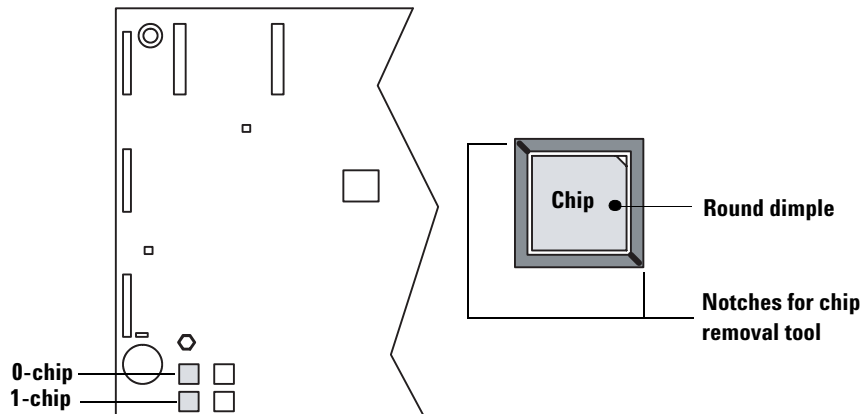

Figure 17 Chip sockets
- 1 Examine the right side of the GC. On the main board, just below the large cutout on the left, are four chip sockets (see Figure 17). The two on the left contain the operating programs (firmware) that run the GC.
- 3 Orient the chip so the round dimple is at the right. When the chip is properly aligned, snap it into place in the socket indicated in Figure 17 using firm pressure.